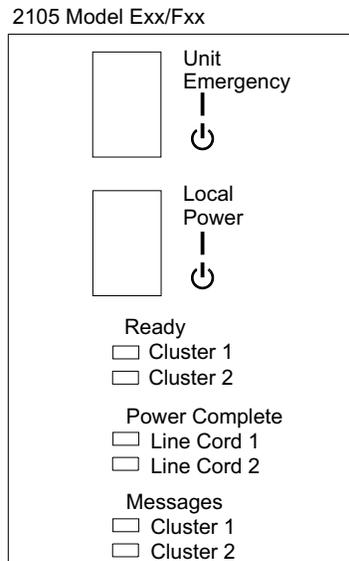

Figure 236. 2105 Model Exx/Fxx Operator Panel Locations (S008814m)
- ___ 1. Set the Unit Emergency switch [Figure 236] to Off (down).
- ___ 2. Set the Local Power switch [Figure 236] to On (up) then release it.
- ___ 3. Observe the Power Complete indicators for Line Cords 1 and 2 and [Figure 236] **perform the action described in Table 14.**